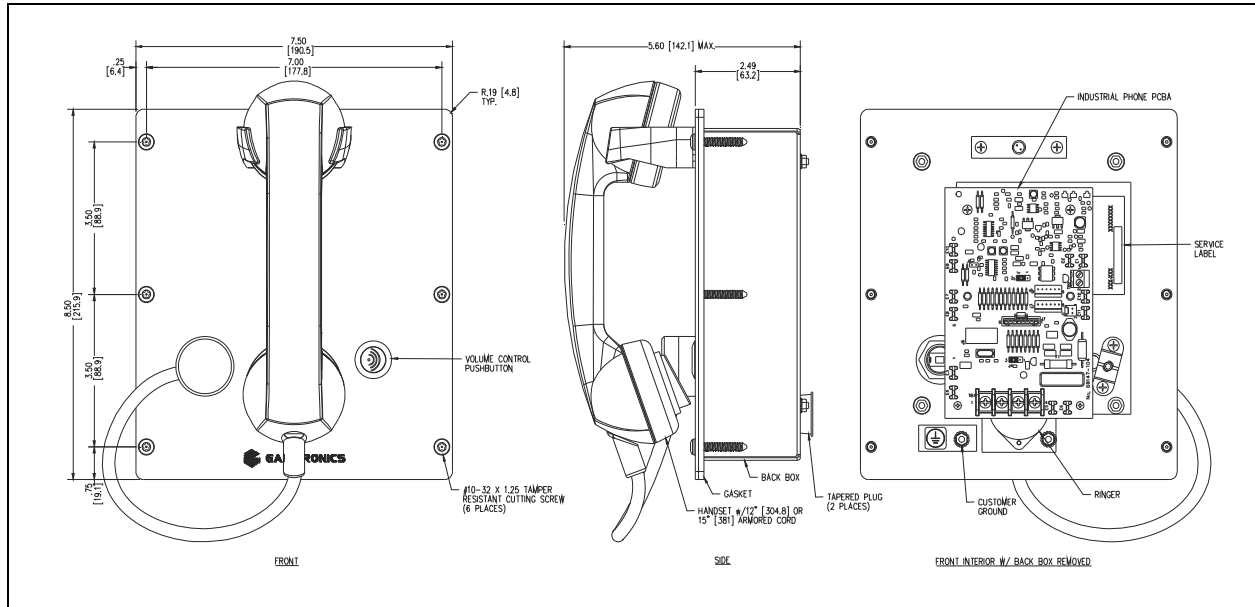
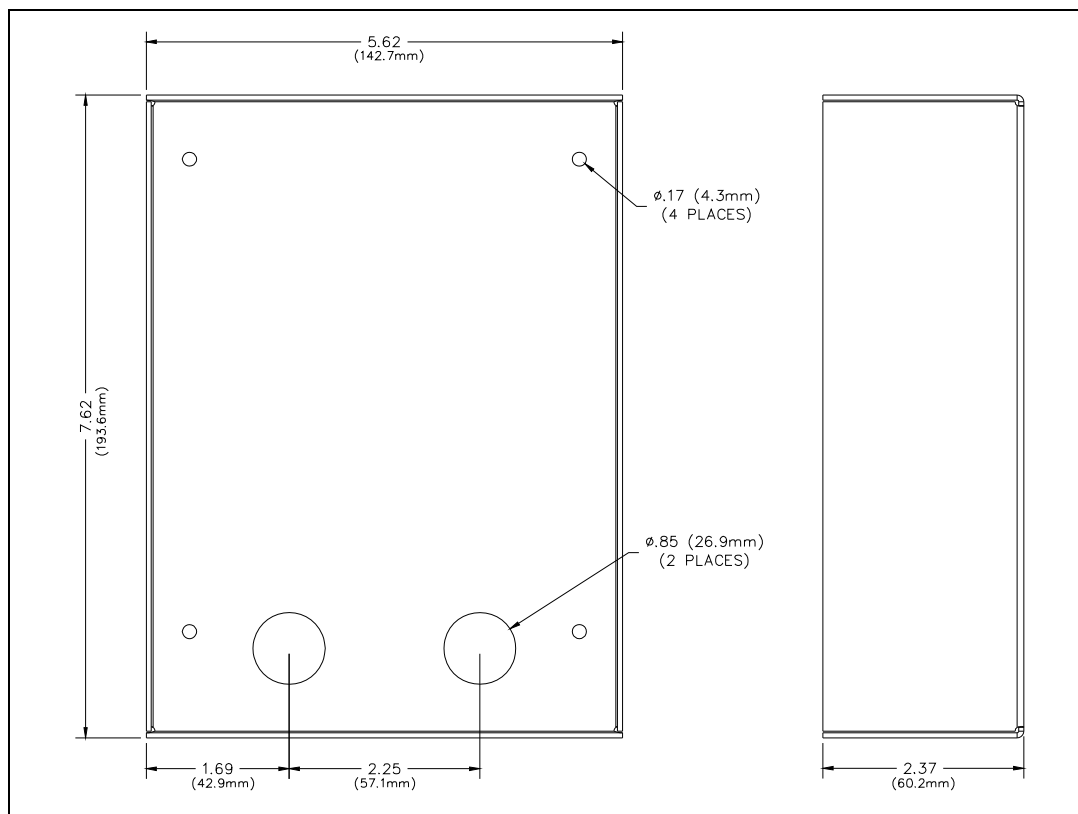

Figure 13. Models 277-002BH/-002BHAC Outline Drawing
Figure 14. Models 277-002BH/-002BHAC Dust Cover Detail
1. Remove the four nuts from the back of the dust cover and remove it from the front panel (see Figure 13 and Figure 14).
2. Feed the telephone line through either of the cable entry holes in the dust cover (see Figure 14).